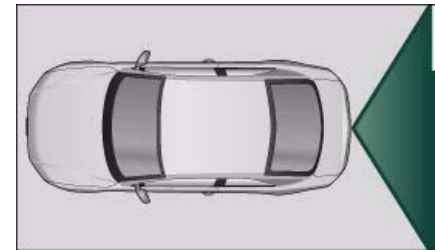
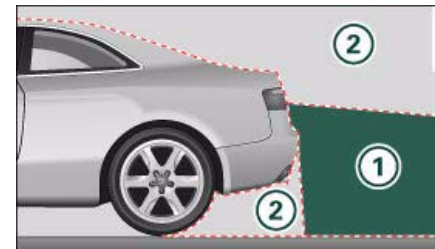

Fig. 158 Viewed from above: Area covered by the reversing camera
Fig. 159 Side view: ①: Area covered by the reversing camera; ②: area NOT covered by the reversing camera
The section of the "Rear View" image shown in the MMI display is roughly the same as the area covered by the camera as shown in ⇒ fig. 158 or ① in ⇒ fig. 159. Objects which are in area ② ⇒ fig. 159 of the reversing camera or in close proximity to the bumper cannot be identified. ►